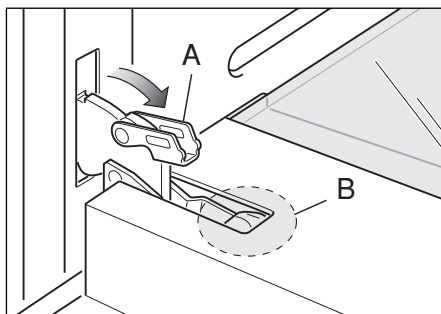

Fig.25b
- Open the lever "A" completely on the left and right hinges (Fig. 25b).